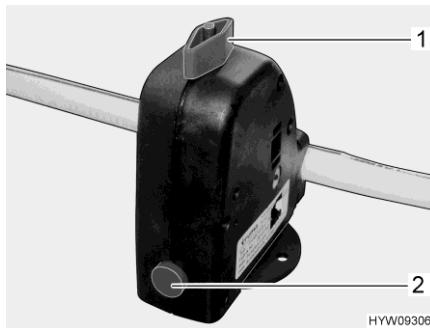

Fig. 58 Safety/drainage valve (boiler)
The boiler is equipped with a safety/drainage valve (Fig. 58). The safety/drainage valve prevents water in the boiler from freezing, when there is frost and the heater is not switched on.
- Close the safety/drainage valve. Turn the knob (Fig. 58,1) perpendicular to the safety/drainage valve and push the push button (Fig. 58,2) in.
- Open the safety/drainage valve. To do this turn the knob (Fig. 58,1) parallel to the safety/drainage valve. The push button (Fig. 58,2) jumps out. The boiler is drained to the outside by the safety/drainage valve.